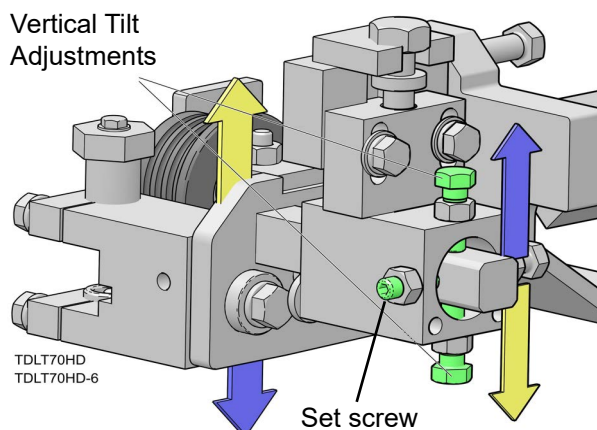

FIG. 7-8
8. Loosen one set screw at the side of the blade guide assembly. See FIG. 7-8.
9. Loosen the jam nuts on the top and bottom vertical tilt adjustment screws. See FIG. 7-8.